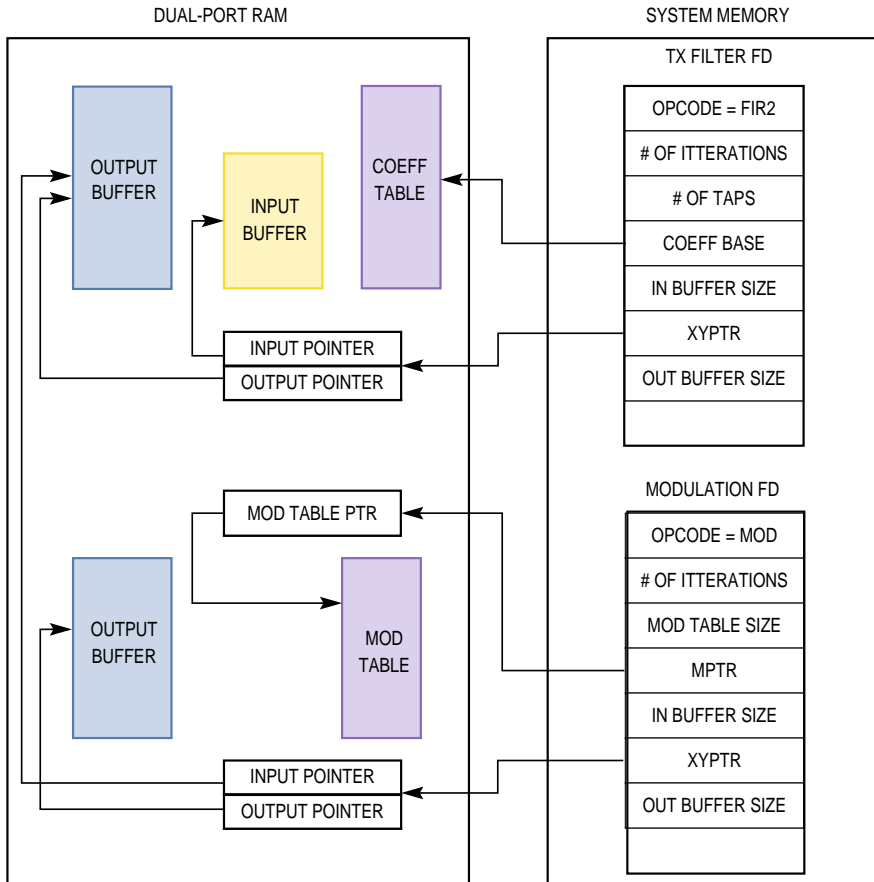

Figure 16-11. Core and CPM Implementation
**16.3.3.5.2 DSP Programming Example (Core and CPM).** Figure 16-11 illustrates the organization of the data buffer and function descriptor data in system memory and dual-port RAM. The function descriptor resides in system memory and all input, output, and coefficient data must reside in dual-port RAM. The transmit and modulation function descriptor chain can reside in either system memory or dual-port RAM.